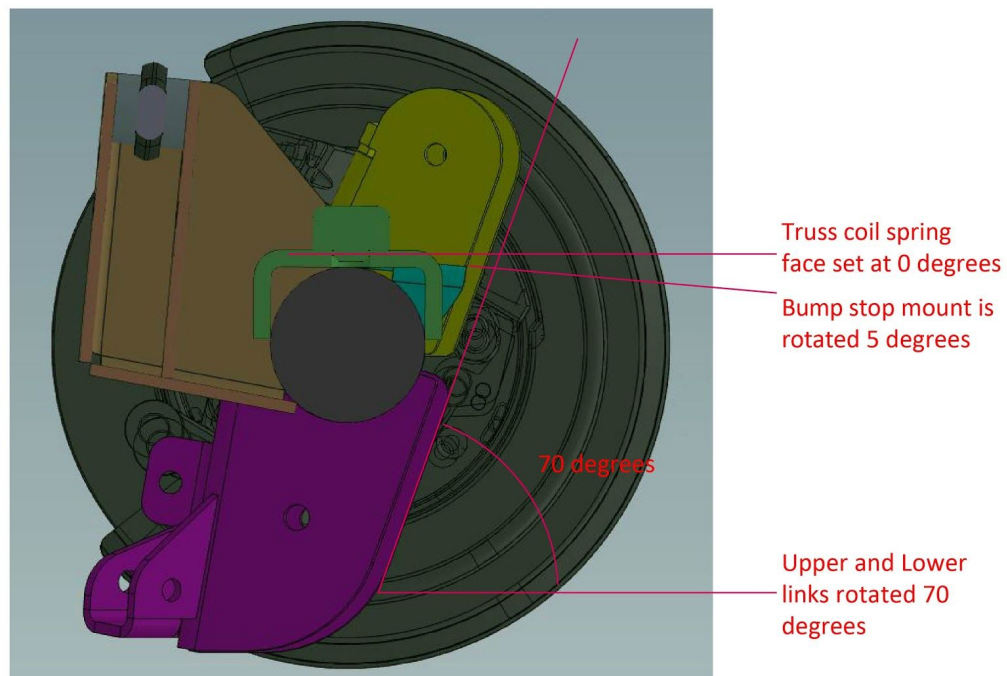

Figure 1-8
- The upper Control Arm mount is also positioned by the Alignment Tool. Set the angle to 70 degrees. See *Figure 1-8*.